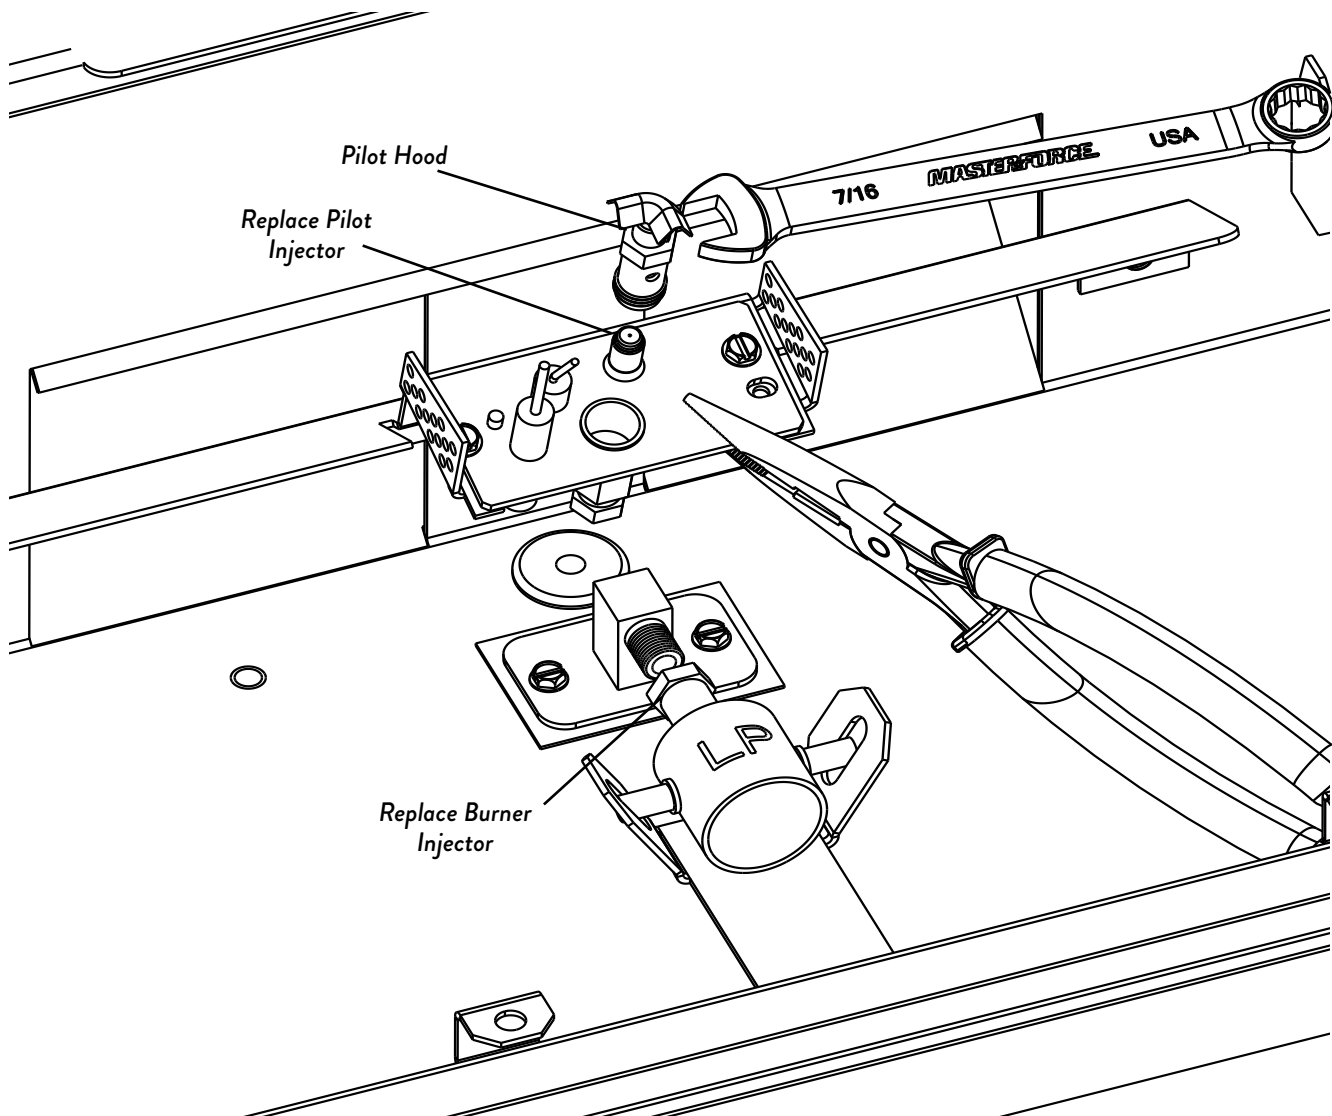

Figure 7.3.
See fig. 7.3. Using a 1/2" open end wrench or deep-well socket, remove the burner injector from the orifice holder and replace it with the injector supplied in the conversion kit.
6. Change the Pilot Injector, Fig 7.3.
7. Flip the Air Shutter. Carefully bend open the Air Shutter Handle and flip the Air Shutter so it displays "LP". Carefully bend the Air Shutter Handle back around the Air Shutter. See fig 7.3